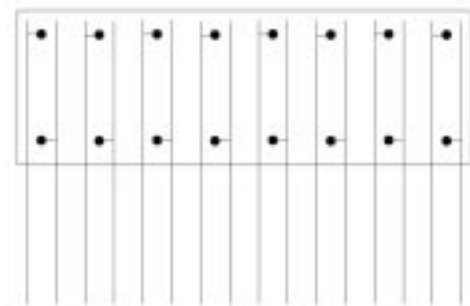
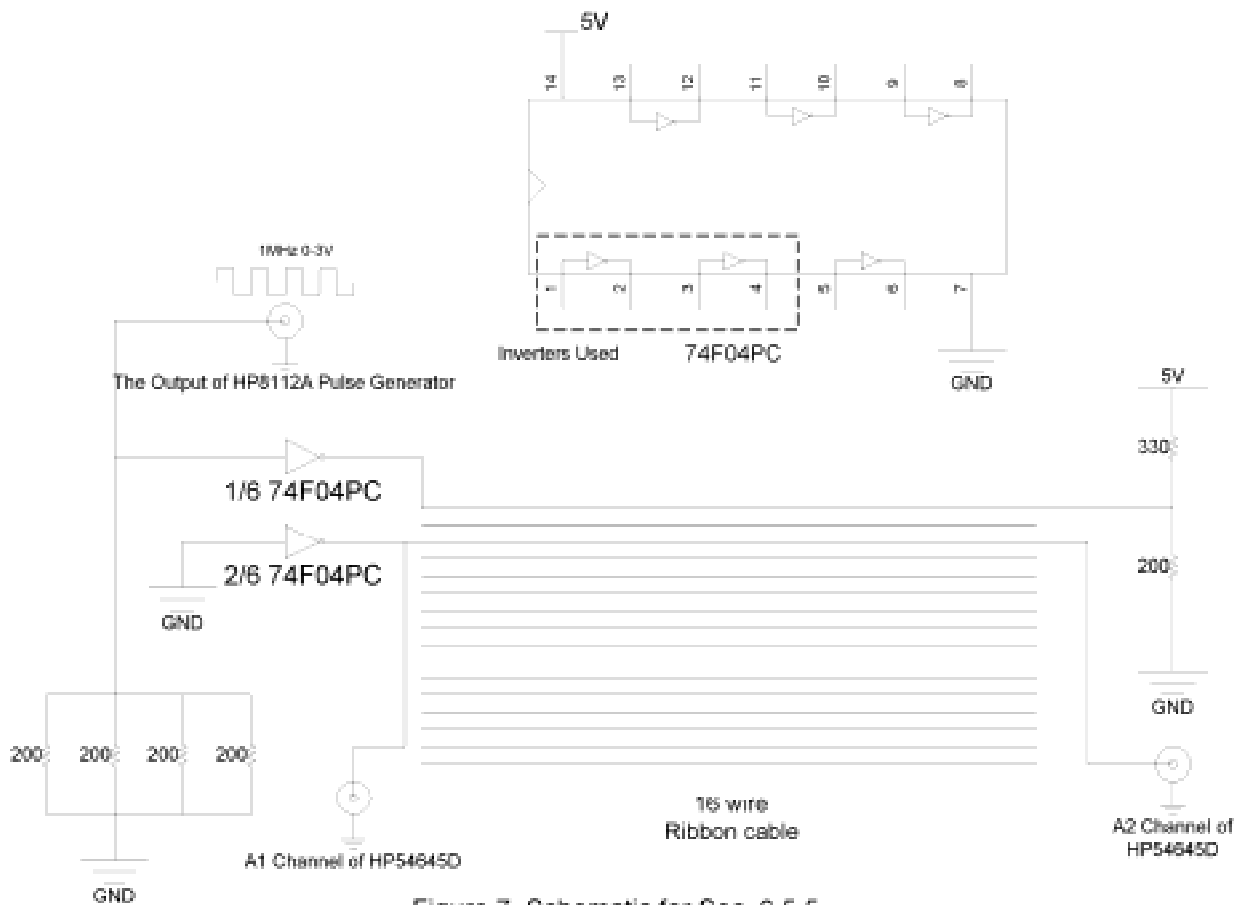

Figure 1b Ribbon cable DIP plug
Figure 7 Schematic for Sec. 6.5.5
Some of the circuits in this lab use a long (ten foot) ribbon cable, which is a flat strip of insulated parallel wires. Adjacent wires in the cable alternate between connecting to the top and bottom pins of a 16-pin DIP connector, shown in Figure 1b.
- Leaving the rest of the circuit intact, select an unused inverter and connect its input to ground. Then connect its output, which should be V_{CC} (a DC signal), to the input of a wire two steps over (refer to Figure 1b to see how the pins correspond to the physical layout of the wires). You will now have a square wave on one wire and V_{CC} on another, with one wire between them carrying no signal. On the oscilloscope, simultaneously display the V_{CC} signal at each end of the cable (use either a 2V or 5V scale on both channels). Your source waveform should be a fairly clean 5V signal, but the signal at the other end should display some oscillation. Explain why this happens. Refer to Figure 7 for schematic.